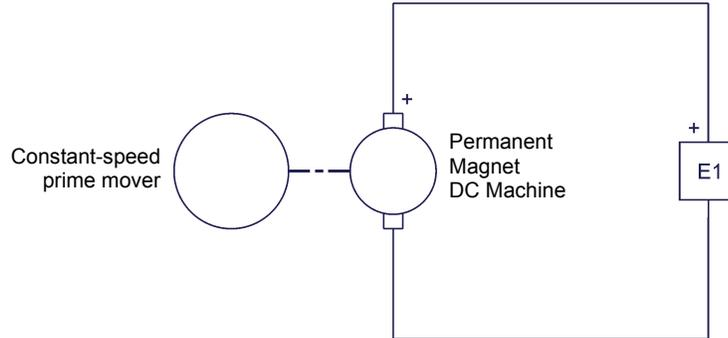

Figure 31. Setup used to plot the voltage-versus-speed characteristic of the **Permanent Magnet DC Machine** operating as a generator.
14. Connect the equipment as shown in Figure 31. In this circuit, the **Permanent Magnet DC Machine** is driven, via a belt, by the machine in the **Four-Quadrant Dynamometer/Power Supply**. **E1** is a voltage input of the **Data Acquisition and Control Interface**.